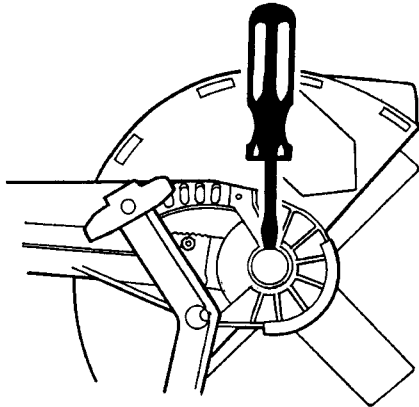

FIG 21
1. Blade holding nut can be spun off with an impact drive. Alternatively, stop motor. Clean area around dust cover #43770 and pry out with screwdriver (Fig. 21) exposing 14mm hex head for unscrewing blade nut.